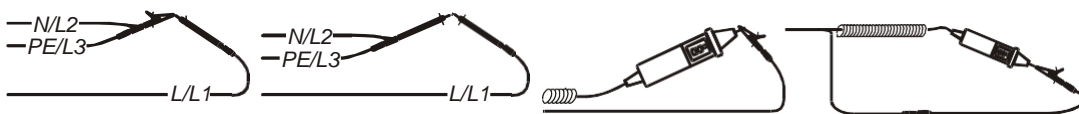

Figure 5-5: Shorted test leads
1. Short test leads first as shown in figure 5.5.